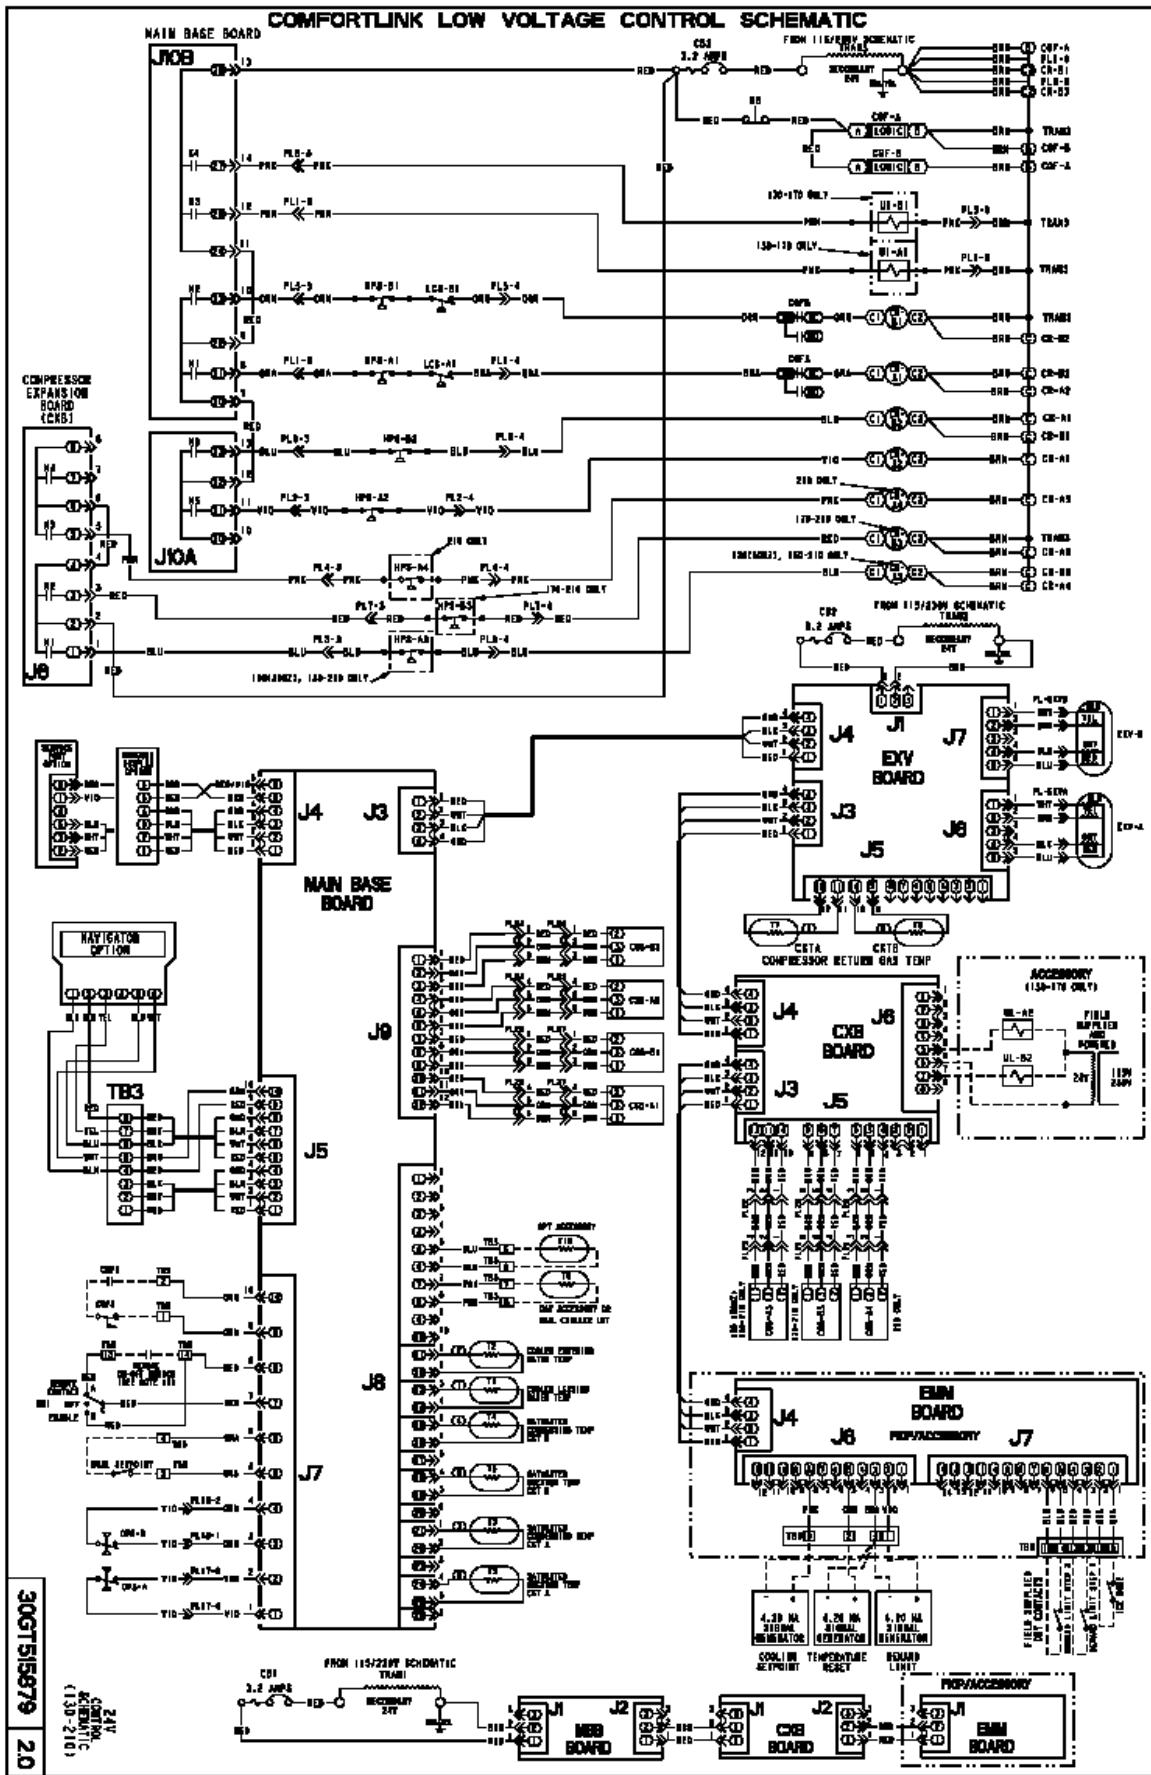

**Figure 3**
4. Use the hole saw and cut (2) 1.375 in. holes to power box and control box, similar to Figure 3, for installation of plug assembly 30GT415900 connectors.
5. Route plug terminals (PL21, 23, 25, 27) through new Power Box hole openings; see Figure 3 – Power Box. Route plug terminals (PL20, 22, 24, 26) through Control Box new hole openings; see Figure 3 – Control Box.
11. Determine locations for HK50AA035 Current Sensor Boards in the power box. Refer to Figure 3 – Power Box for location.
**Note:** Provided with this kit are seven (7) CSB's. Please refer to 24V Control Schematic 30GT515879 for unit application. Discard unused CSB's.
12. Install and secure the Current Sensor Boards (CSB) with four (4) 6B-20 x ¾ in. long screws provided.